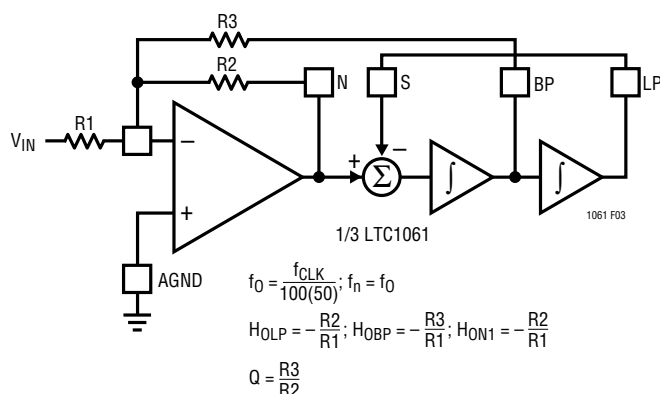

Figure 3. Mode 1: 2nd Order Filter Providing Notch, Bandpass, Lowpass
1. Primary Modes: There are two basic modes of operation, Mode 1 and Mode 3. In Mode 1, the ratio of the external clock frequency to the center frequency of each 2nd order section is internally fixed at 50:1 or 100:1. In Mode 3, this ratio can be adjusted above or below 50:1 or 100:1. The side C of the LTC1061 can be connected only in Mode 3. Figure 3 illustrates Mode 1 providing 2nd order notch, lowpass, and bandpass outputs (for definition of filter functions, refer to the LTC1060 data sheet). Mode 1 can be used to make high order Butterworth lowpass filters; it can also be used to make low Q notches and for cascading 2nd order bandpass functions tuned at the same center frequency and with unity-gain. Mode 3.